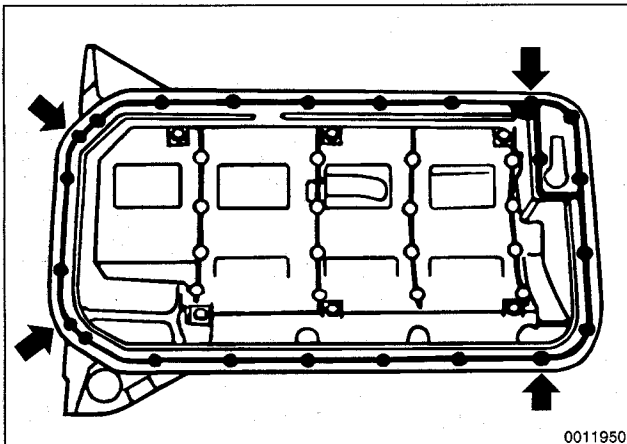

Fig. 5. Joint-mating areas at oil pan gasket where sealer should be applied (arrows). Apply a bead 3 mm wide by 2 mm high.
- Apply a small amount of non-hardening sealer (3-Bond® 1209 or equivalent) to oil pan gasket directly below joints for end cover and front timing case cover. See Fig. 5.